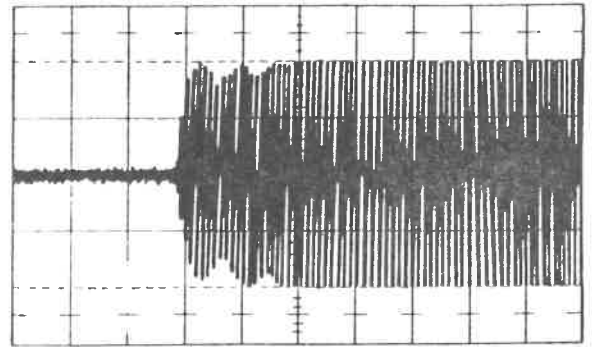

FIGURE 3-7. Head Load Waveform
5. ~~En~~sure that the data trace reaches 90% of maximum amplitude in 30 milliseconds or less (Figure 3-7).